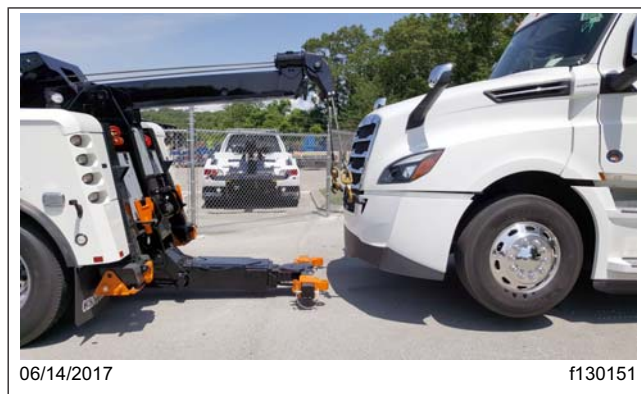

Fig. 23.10, Moving the Stinger and Crossbar Under the Bumper
7. Lift the front of the truck until there is enough clearance for the stinger and crossbar to pass under the bumper. See Fig. 23.10.